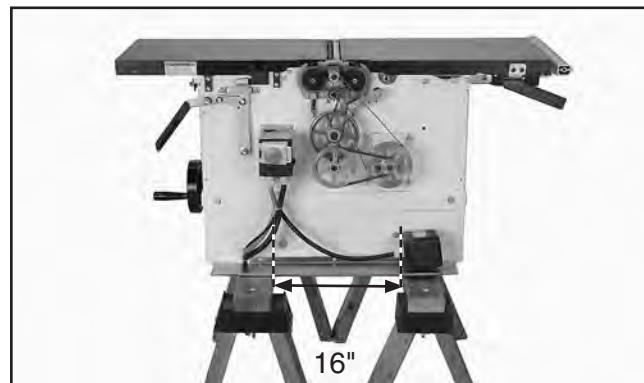

Figure 84. Machine supported by sawhorses.
- While an assistant steadies the jointer tables, lift the machine off of the base and set it onto the sawhorses, as shown in **Figure 84**.